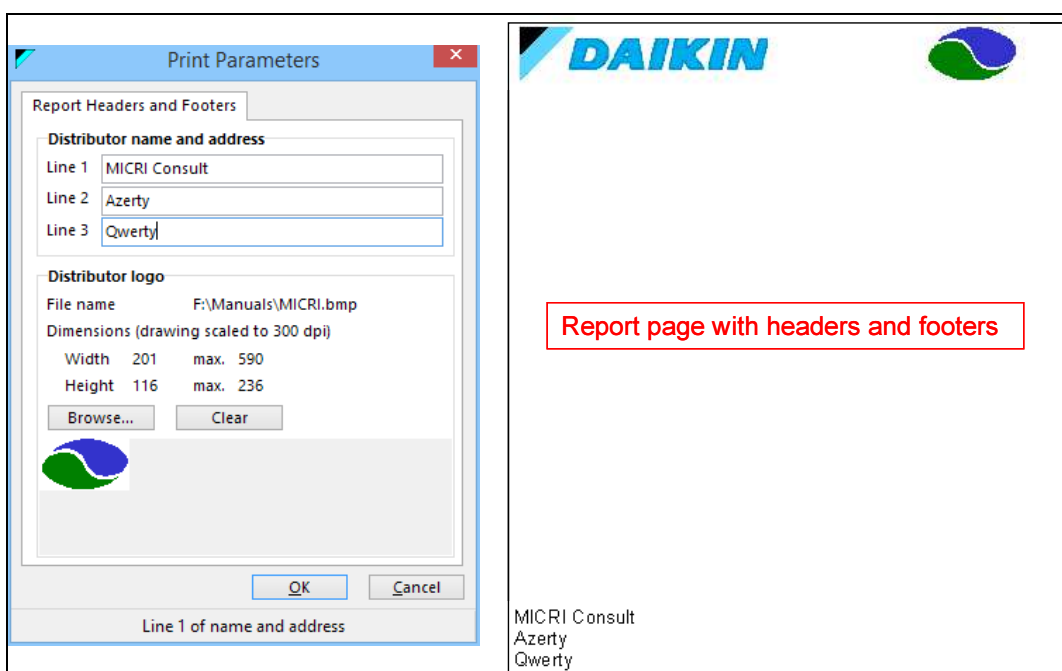

Figure 96: Defining distributor data and the corresponding header and footer in the report
- The “**Report headers and footers**” command button, brings up a window to define the headers and footers in a report, containing distributor or installer coordinates and logo, as shown in Figure 96. When creating a report, VRV\_Xpress fills in headers and footers, which by default only contain a Daikin logo in the header. Figure 96 at the right shows the corresponding page layout when defining the distributor or installer data.